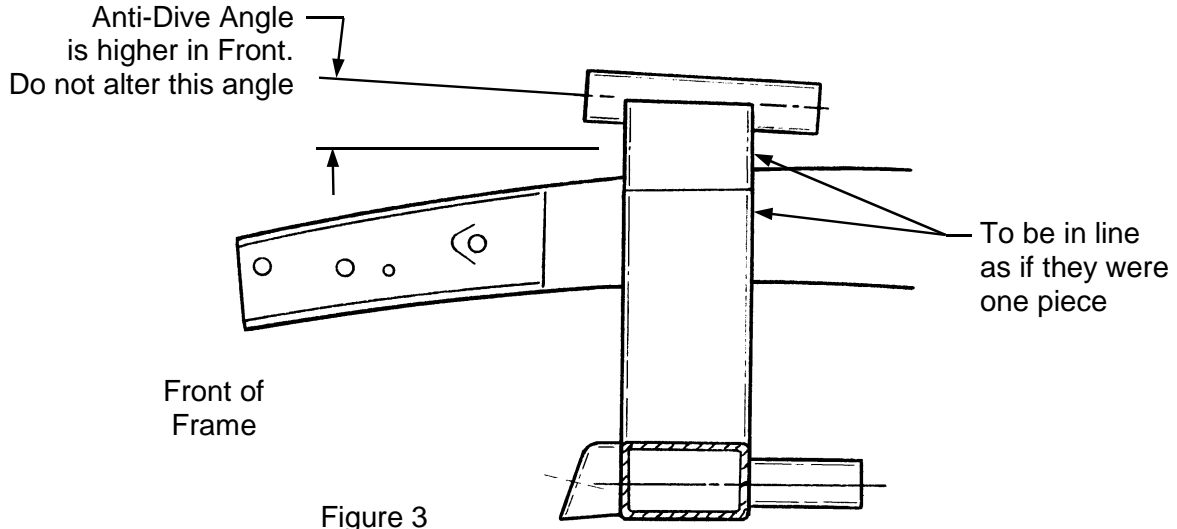

Figure 3
6. The upper control arm mounts are next. See Figure 3. They are positioned with the anti-dive angle of the upper arms higher in front, as shown. The upper mount should line up with the main crossmember and should contact the entire top ends of the crossmember flush, as if they were all one piece. If the upper mounts do not fit up to the crossmember, grind the edges of the upper mounts where they sit on the frame. If there is a gap between the frame and the upper